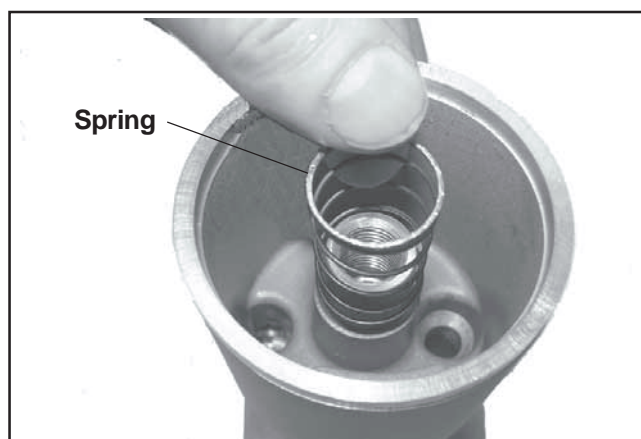

Figure 10-65. Installing Spring into Housing.
2. Install the larger spring into the filter housing. See Figure 10-65.